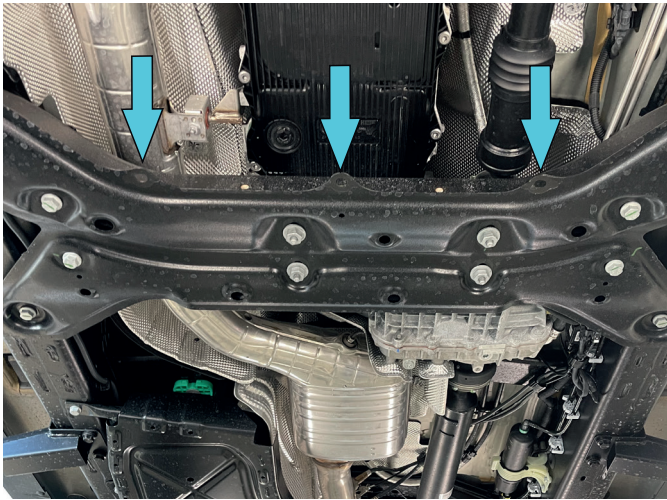

Fig. 5
4. Install insert nuts M10 (item C) into holes as shown in fig.5.
5. Slightly screw bolts M10x30 with washers 10 (item B, E) into insert nuts M10 from step 4 (fig. 5).